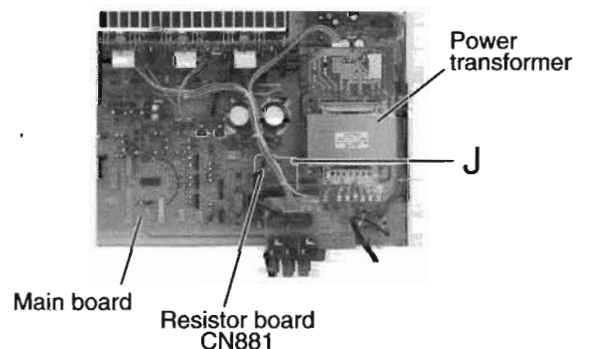

Fig.13
**■ Removing the resistor board (See Fig.13)**